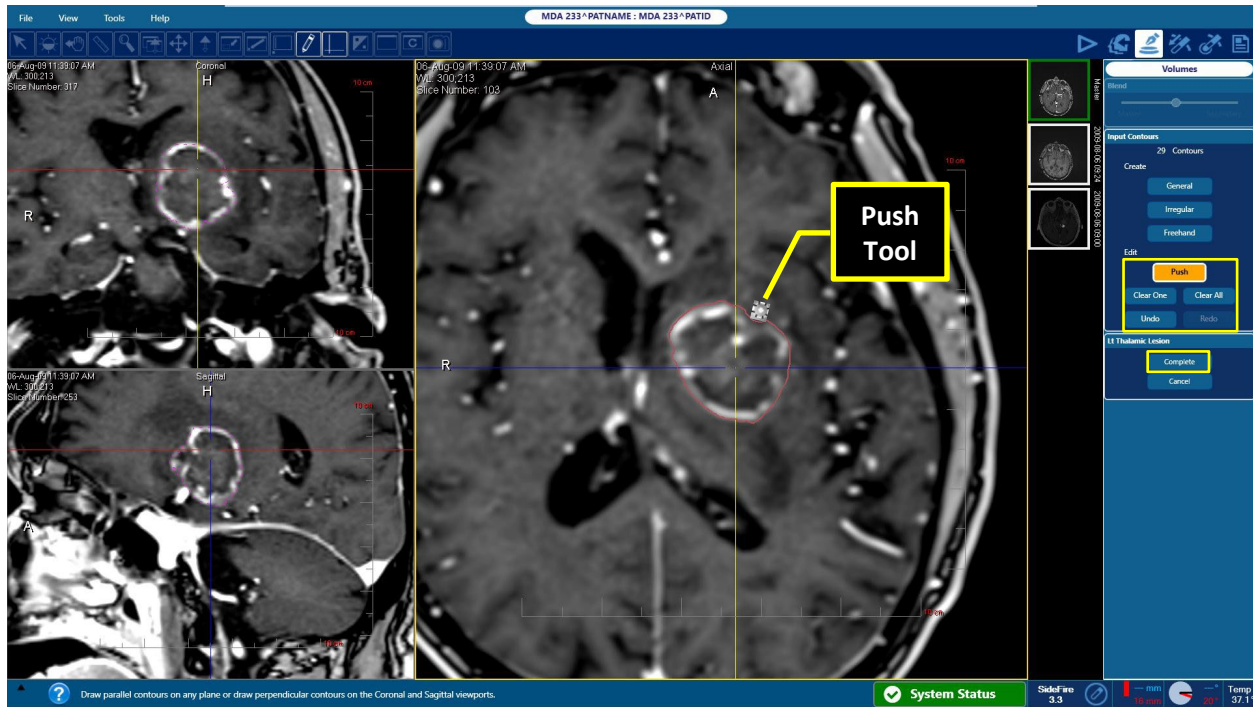

Figure 8.1.32: Edit the Generated Volume Contour
- Use the Push Tool (Figure 8.1.32) to adjust the boundaries of the initially defined contour - left click and hold while touching the boundaries of the contour with the Push Tool